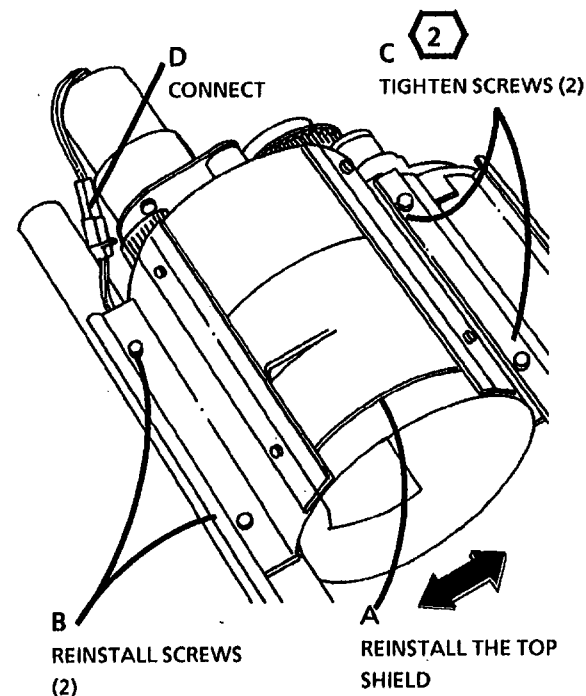

Figure 3. Reinstall the Top Shield
ⓘ STEP 3 C: To avoid damage to the drive plate seal, always rotate the drive plate in the direction shown in Figure 3.
4. (Figure 3): Reinstall the Top Shield.